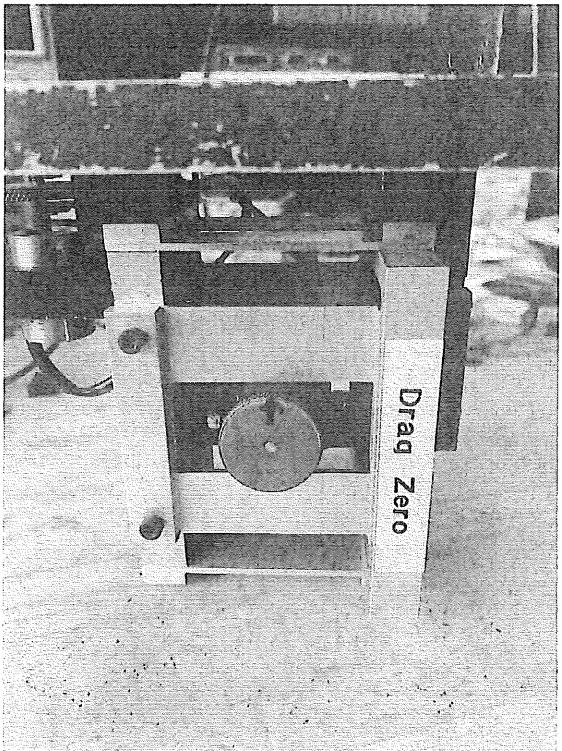

Figure 4: Drag zero thumb wheel.
4. Zero the meter display by adjusting the LVDT thumb wheel shown in Figure 4.
1. Remove the dynamometer assembly from the test section and fasten the base plate firmly to the testing bench in a horizontal position, as shown in Figure 4 using the standard clamping vise. Insure that the dynamometer plate is level.